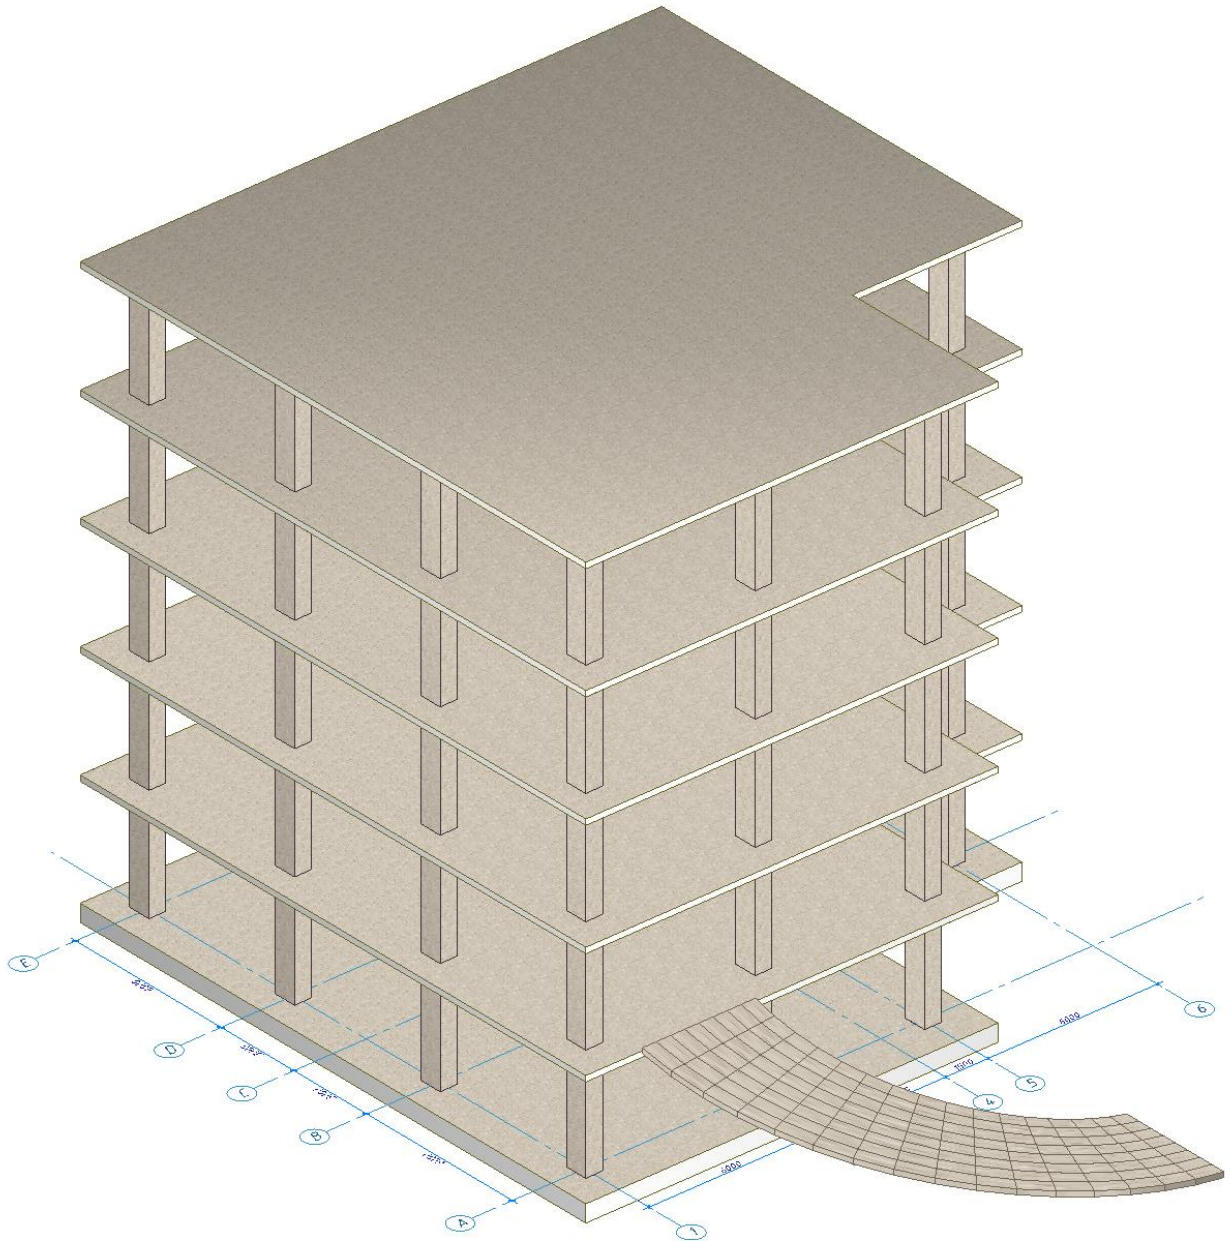

Figure 23.18. Building with ramp
- The building with the ramp should look like this (see Fig. 23.18).